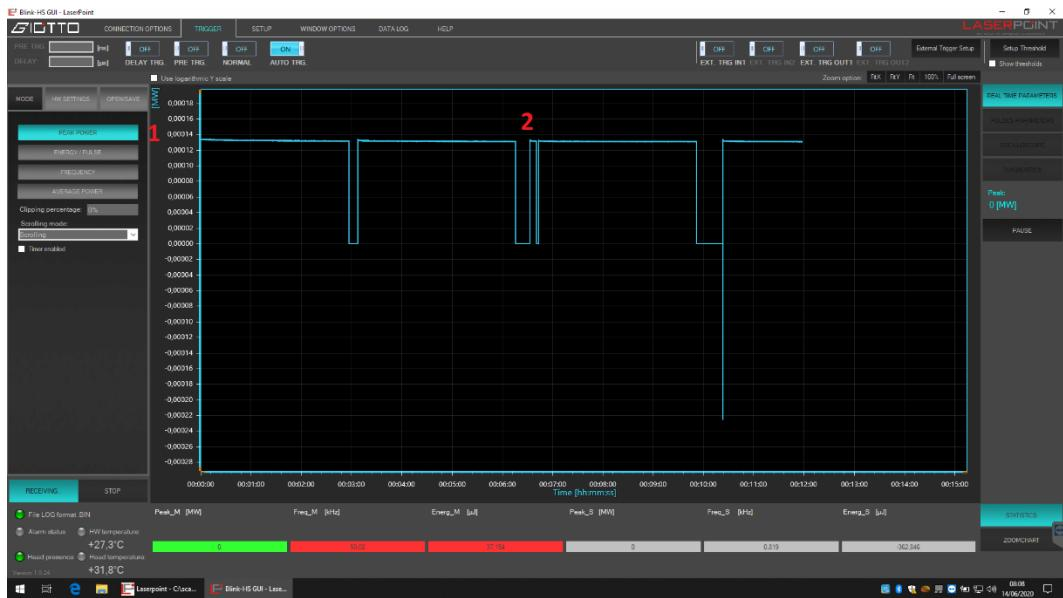

Figure 28
1. Select Peak Power (MW) (1, fig.28), the real time average values over 1 ms vs time are displayed, (2, fig.28)